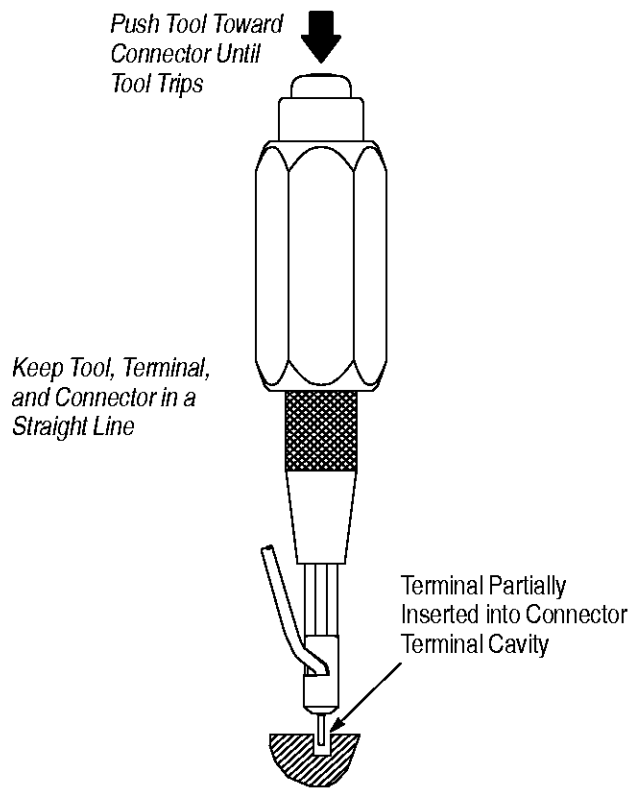

Figure 3
3. Align the tool tip with the desired connector terminal cavity and insert the terminal straight into the cavity. Make sure to keep the tool, terminal, and connector in a straight line. See Figure 3.